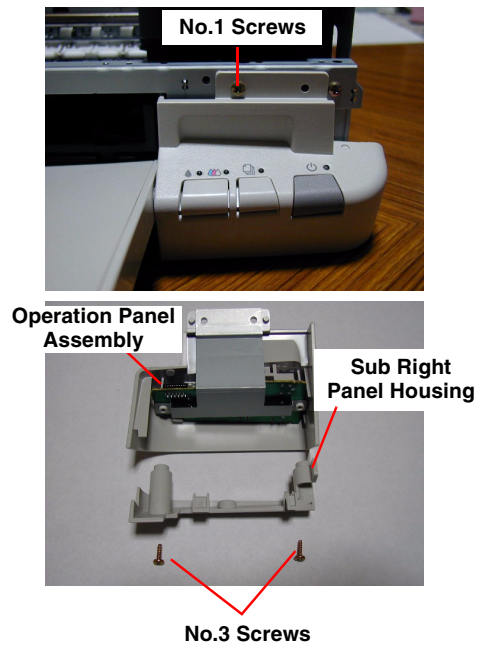

Figure 4-6. Removing the Operation Panel
- 2) Remove one screw (No.1) securing the Operation Panel Assembly. Disconnect the Operation Panel Assembly from the Printer Mechanism. Refer to Figure 4-6.